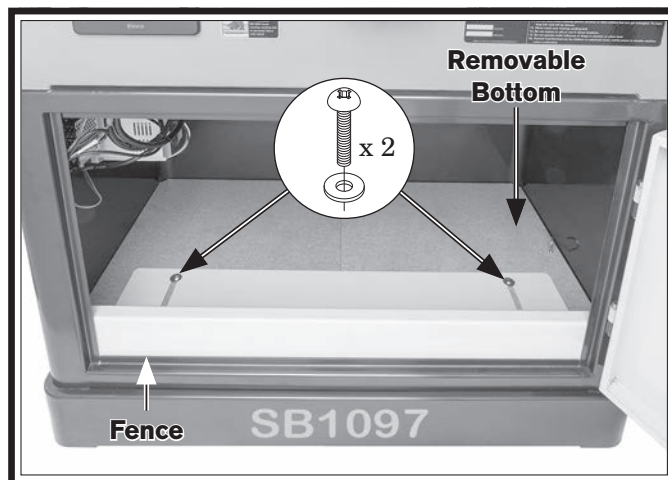

Figure 14. Fence secured inside cabinet for shipping.
3. Remove Phillips head screws and washers shown in **Figure 14** to remove fence.
Note: Remove the cabinet bottom shown in **Figure 14** to access machine mounting holes.